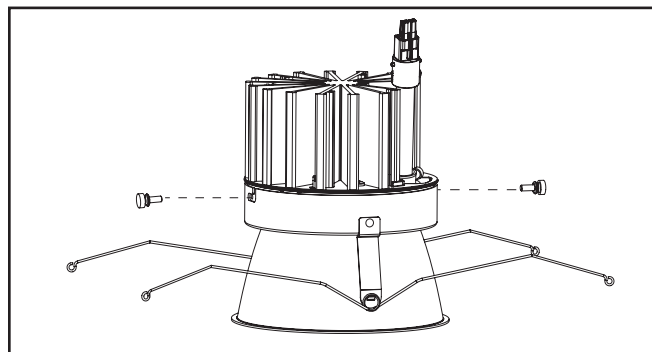

Figure 7.
4. Using provided thumb screws, securely attach lower trim to LED Engine. Align Power Plug from LED Engine with cylinder housing connector and push together (Figure 7.).